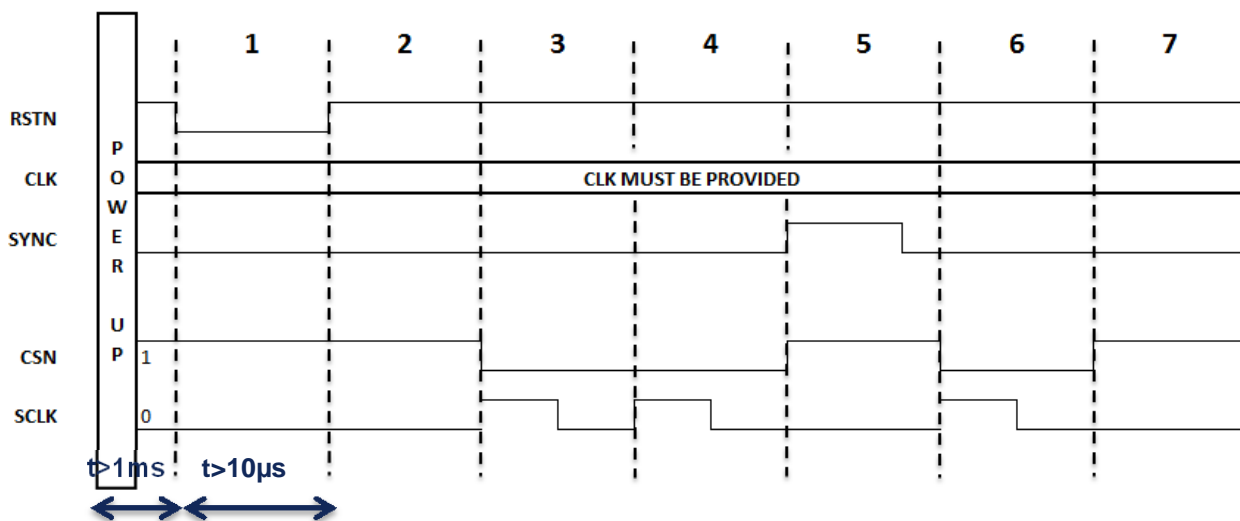

Figure 11: Start-up sequence when using the SPI interface
Figure 11 presents the reset and synchronization to realize after power-up when the SPI interface is used (see section Serial Peripheral Interface for more information on the SPI interface).
5. A pulse is applied onto the SYNC input to reset the internal clocks (SYNC signal in Figure 11). At this stage the bit 7 of register CHIP\_CTRL must be at '0' (trigger mode disabled) – see section SYNCTRIG input;